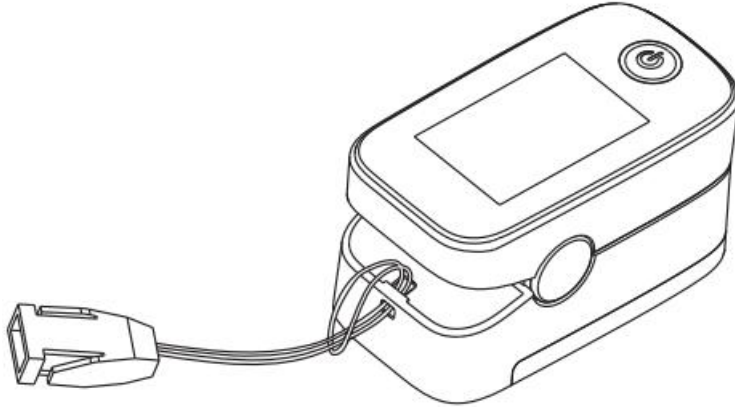

Figure 7: Lanyard Installation
2. Pass the thicker end of the lanyard through the thinner end and tighten the lanyard (Figure7).